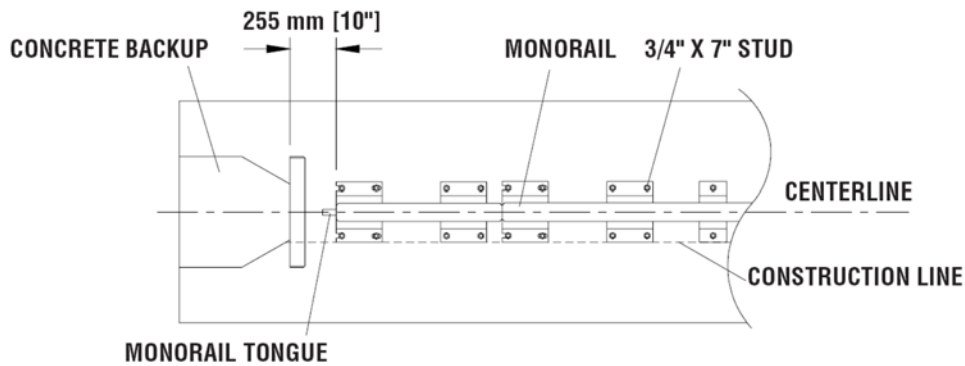

Figure 20
Locate Tension Strut Backup and Monorail on foundation with side of Monorail on the construction line (Figure 20 on p. 27). **Verify that any applicable Transition Panels fit properly before anchoring Backup.** Drill 7/8" [22 mm] diameter by 5 3/4" [145 mm] deep anchor boreholes in foundation using the Backup as template. Anchor the Backup to the concrete foundation using an approved adhesive supplied with the QuadGuard II (p. 16).
A) Monorail Placement for Concrete Backup (Figure 20)
Locate Monorail on foundation with side of Monorail on the construction line and rear edge of Monorail foot 10" forward of front face of Concrete Backup (Figure 20).
Orient the Monorail so that the Monorail tongues face Backup (Figure 20).
Anchor each Monorail section using an approved Trinity Highway adhesive kit. See Figure 20 and the approved adhesive instructions included with the adhesive kit. It is important to attach each segment of Monorail in alignment from the back to the front of the system ($\pm 1/4"$ [6 mm]).